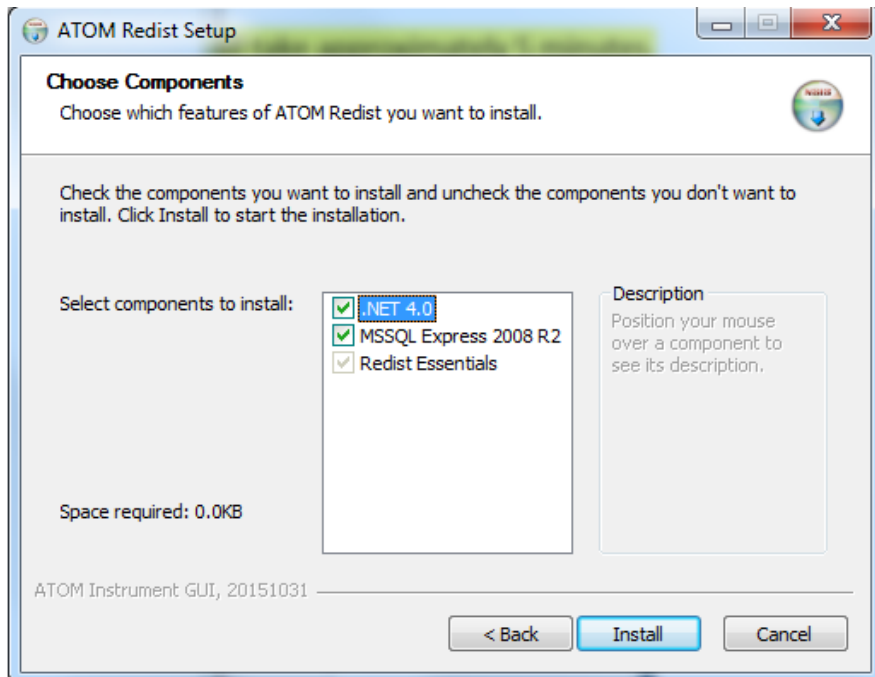

Figure 3.3
- 6. Click **Install** (Figure 3.3). The installation will take approximately 5 minutes.